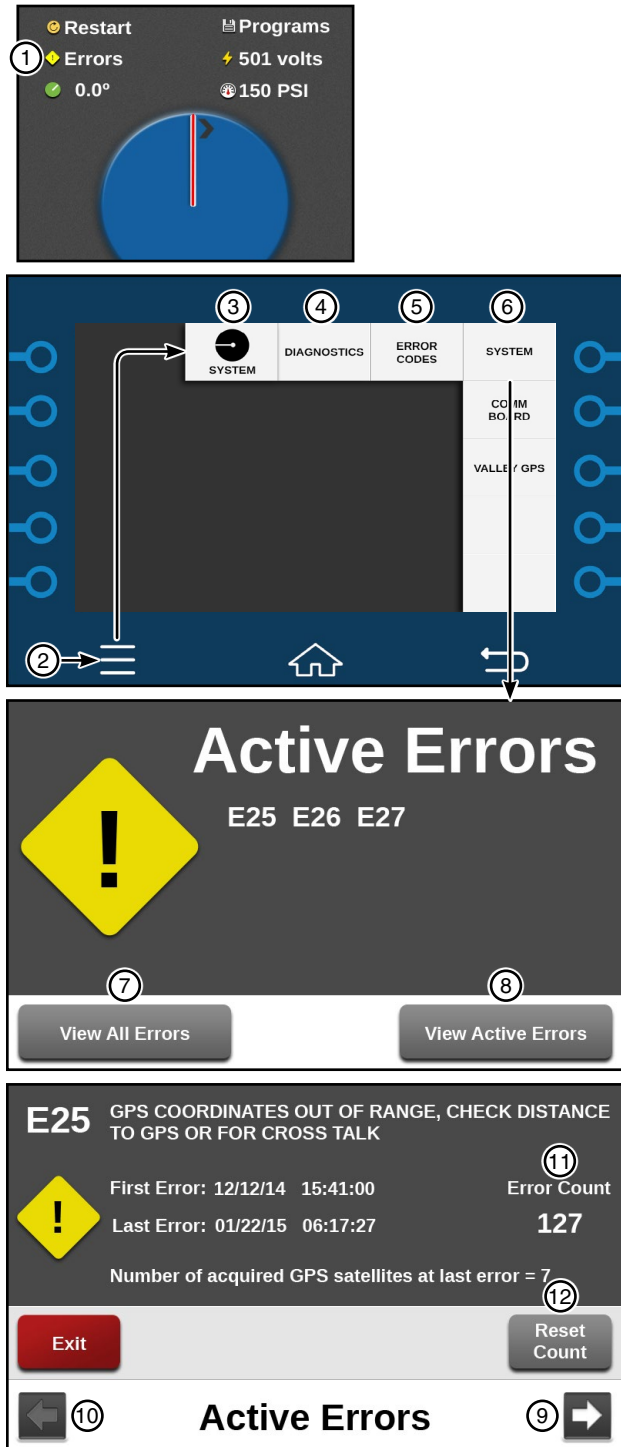

Figure 62-1
When an error occurs, information about the error, including the first time and date that the error occurred, last time and date that the error occurred, and total count of all times that the error occurred, is recorded. See Figure 62-1. A list of Error Codes are shown on the next page.
If one or more failures occur, the word Errors will display next to the Error icon in the status area of the Main Screen. Errors must be selected as a Main Screen status for it to appear on the Main Screen. See Figure 62-1.
To view the Error Codes refer to Figure 62-1 and do the following:
4. To set the Error Count to 0 (zero), push **Reset Count**. See Figure 62-1.